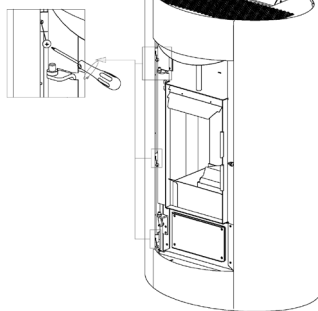
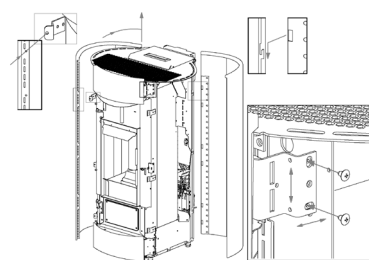

Fig. 59 - Locking teeth
Fig. 60 - Adjustments
- For assembly, proceed in reverse order, adjusting the front faceplates both vertically and horizontally to bring them level with the side panels (see **Fig. 59** and **Fig. 60**).